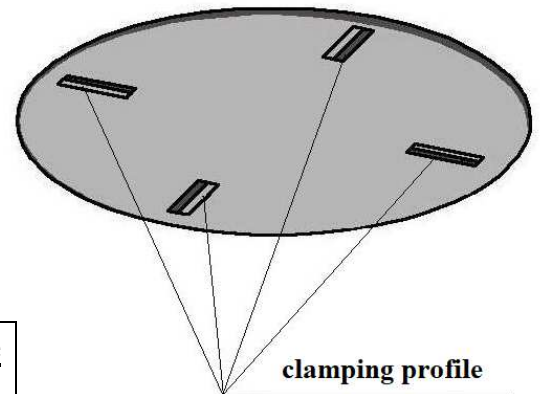

Fig. 4
Figure 4 schematically illustrates trowel operation.
The machine should be placed on the plates (plate) in such a way that the blades are under the clamping profile (Fig. 4) Then set the angle of the blades according to the height of the clamping profile with the adjustment knob (Fig. 1, item 3).